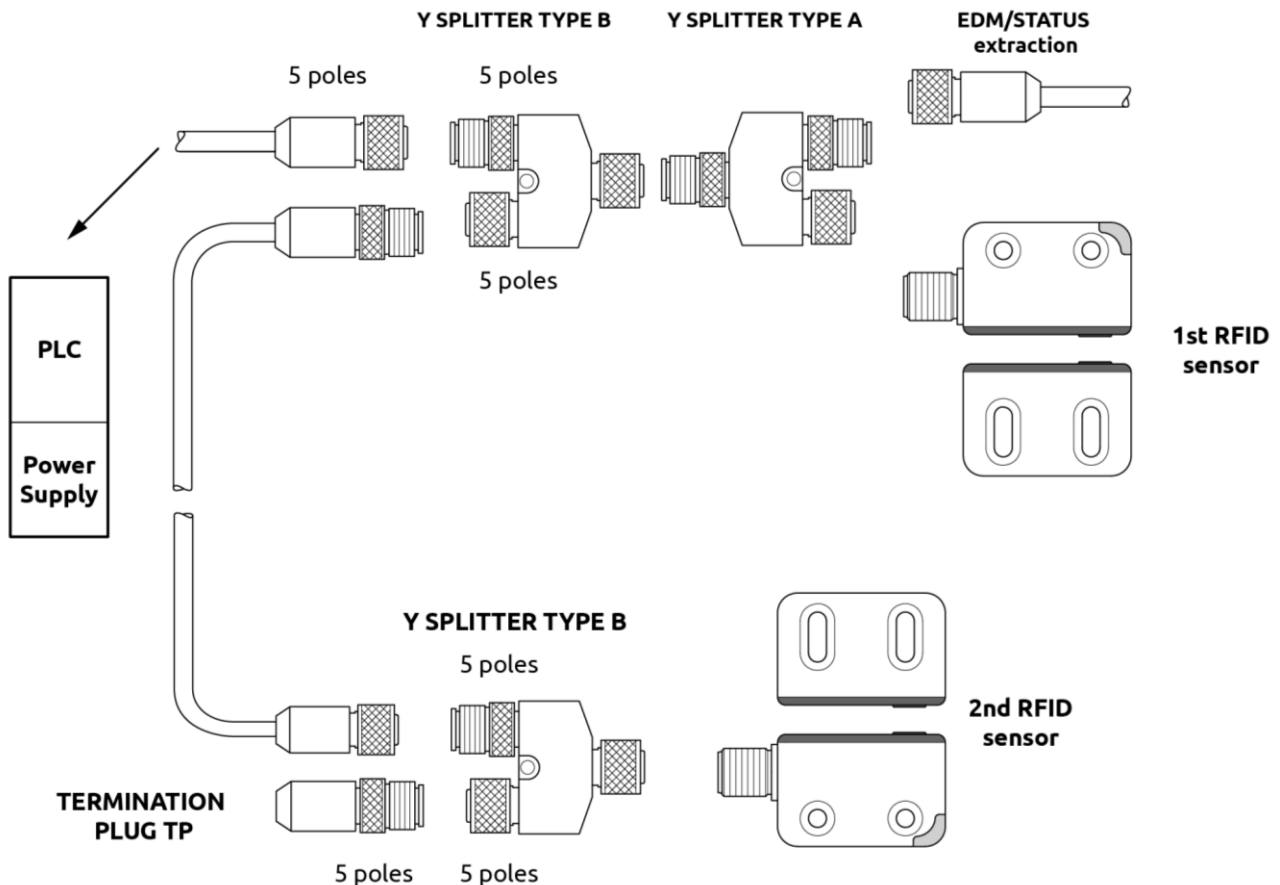
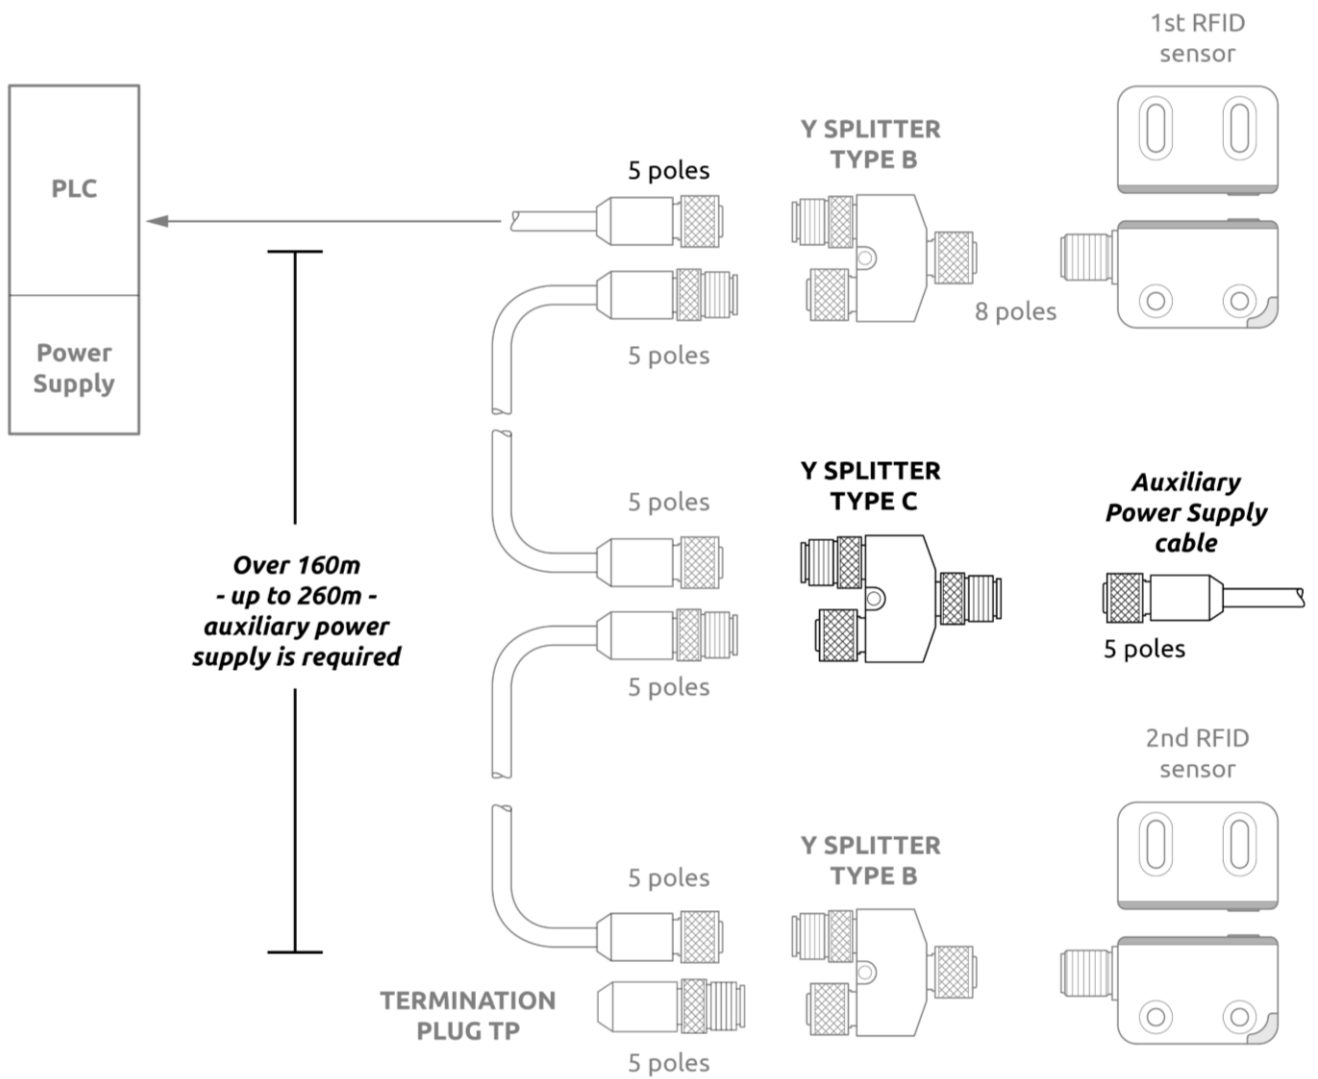

Figure 21 - Serial mode with STATUS / EDM (R-Safe RFID Pro)
Figure 23 - Auxiliary power supply (R-Safe RFID Pro)
- ➔ For a quicker and safe connection, ReeR recommends using its splitter connectors as showed in Figure 19, Figure 21 and Figure 23.